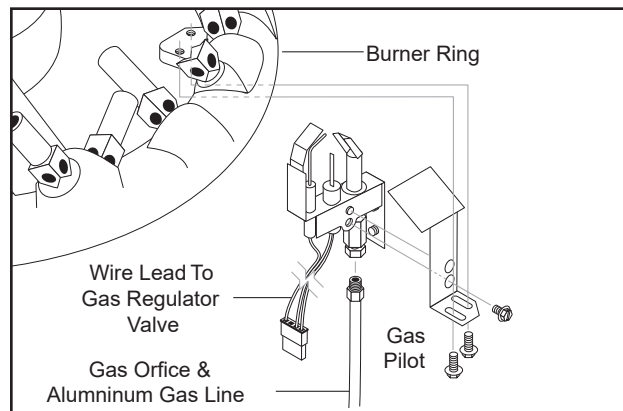

Figure 6 - LP Gas Pilot
6. Carefully remove the LP gas pilot from the burner ring (Refer to **Figure 6**).
7. Remove the LP gas orifice from the pilot (Refer to **Figure 6**).
5. Refer to **Converting to Natural Gas** and follow steps 11 through 13 except use LP Vapor Conversion Kit instead of Natural Gas Conversion Kit. (Refer to **Figure 6**.)